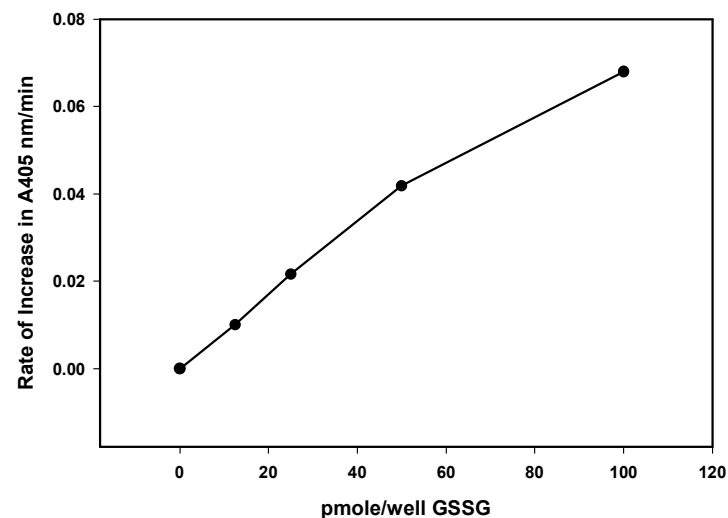

Figure 4. Rate of increase in the absorbance at 405 nm as a function of pmole/well GSSG
4. Plot the net slopes of the GSSG standards versus pmoles of Glutathione (Figure 4).
5. Compare the net slopes of the experimental samples with those of the standard curve from Figure 4 to determine the pmoles of GSSG (equivalent to total glutathione) for each experimental sample.
2. Compare the net slopes of the 4-vinylpyridine-treated experimental samples with those of the 4-vinylpyridine-treated standards curve from Figure 4 to determine the pmoles of oxidized Glutathione for each experimental sample.